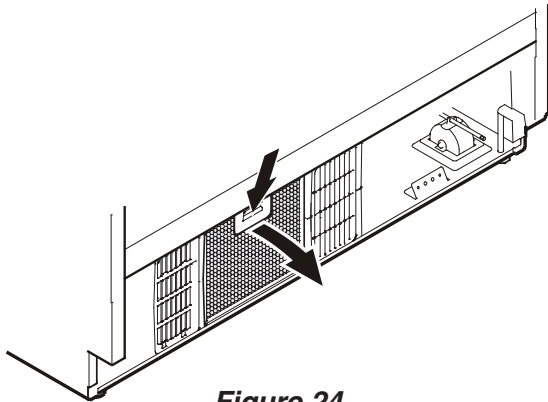

Figure 24
- Push down the button of the air filter, tilt to the front and remove - **Figure 24**.